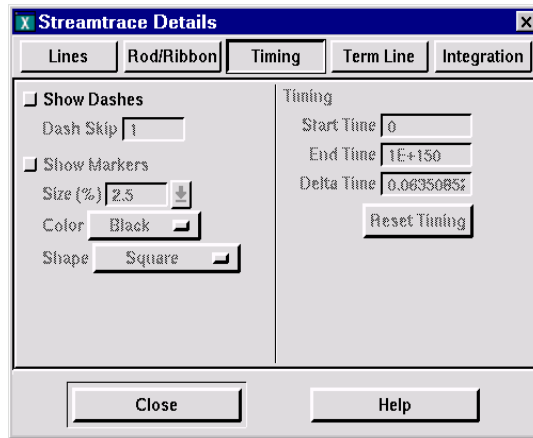

Figure 13-11. The Timing page of the Streamtrace Details dialog in Motif.
2. Click Timing (Timing tab in Windows). The Timing page of the Streamtrace Details dialog appears, as shown in Figure 13-11.